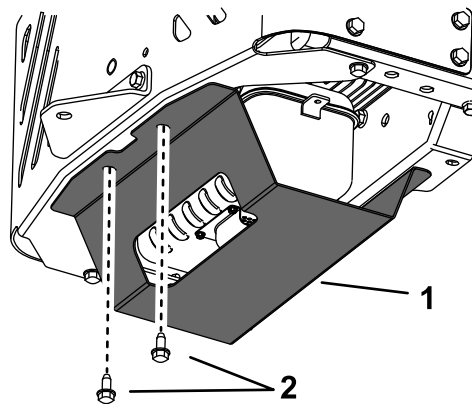

Figure 2
4. Secure the rear of the heat shield using 2 bolts in the existing holes in the rear bumper (Figure 2).